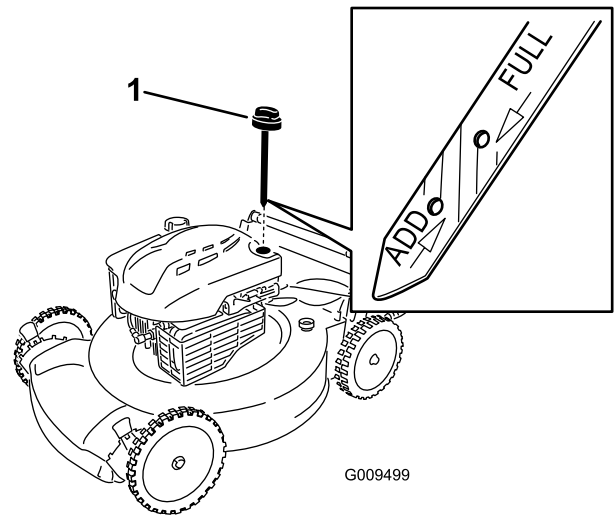

Figure 20
3. Remove the dipstick (Figure 20).
Note: If the oil level is below the **Add** mark on the dipstick, **slowly** pour a small amount of oil into the oil fill tube and repeat steps 8 through 10 until the oil level is at the **Full** mark on the dipstick (Figure 20).